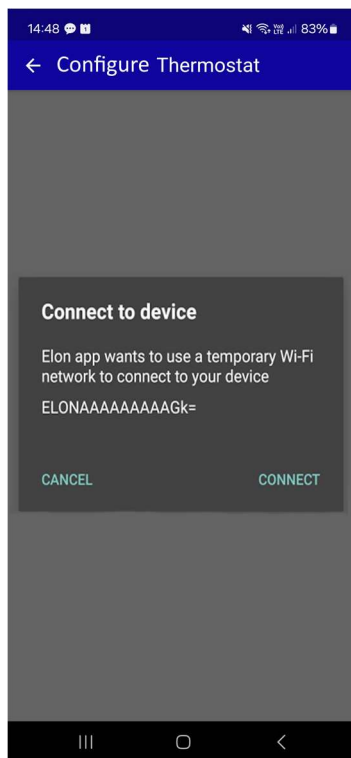

Figure A1 Network change
3. The application requests confirmation to switch to the Smart Thermostat's hotspot (**Figure A1**).